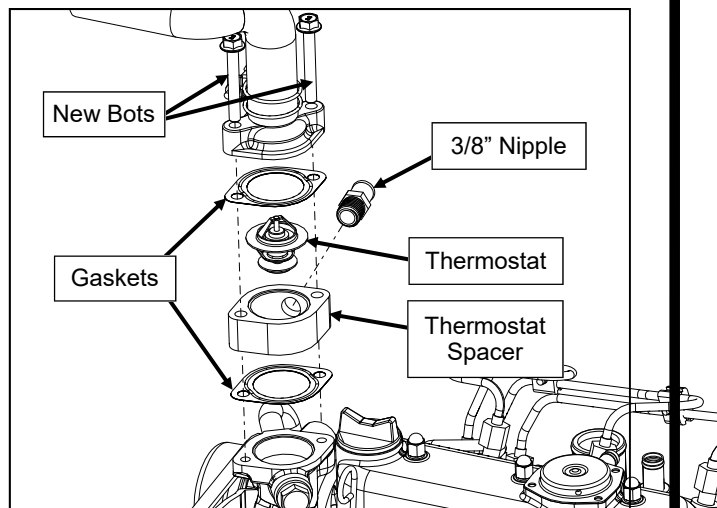

Figure 20.7 (Install Thermostat Spacer)
20.7 Pre-install the 3/8" NPT Nipple into the thermostat spacer using Teflon tape. Install the thermostat spacer onto the engine using a new gasket provided, followed by the thermostat, another new gasket, and the thermostat housing with new longer bolts. Ensure that the nipple is pointing towards the front left of the vehicle. See Figure 20.7.